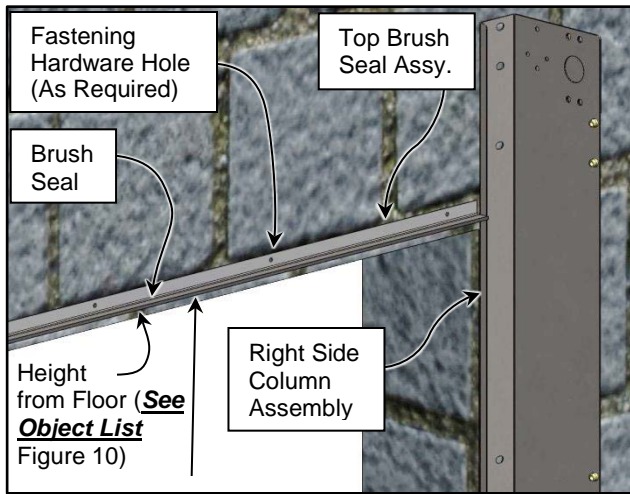

Figure 30
2. Evenly space the seal assembly in between the side columns. Leave any space on the ends between the side columns and the seal and center the seal. There should be a gap between the door's lintel and the bottom of the brush. The approximate height will be listed in the door's Object List. (See Figure 10, and Figure 30)
3. With the top seal assembly oriented as shown, securely attach it to the wall with appropriate fasteners. Locate the fasteners as shown @ approximately 18" c/c spacing. (See Figure 30)